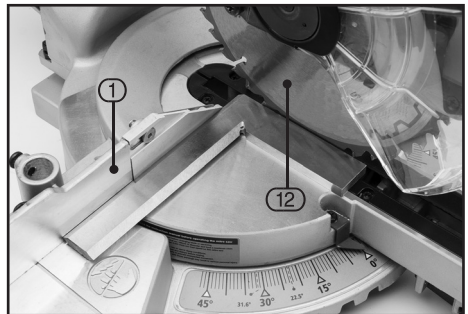

FIG.10
8.12 CHECKING THE FENCE TO BLADE ALIGNMENT – FIGS.10 – 11